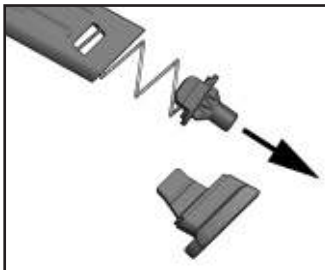

Figure 36
4. Gradually allow the locking plate and magazine spring to expand out of the magazine body (see Figure 36).